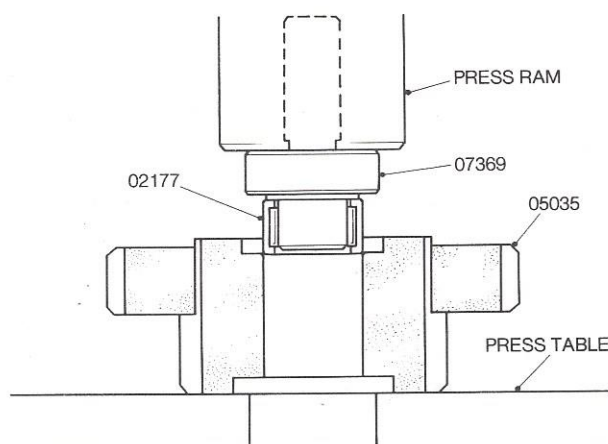

Figure 19 Assembly of the Layshaft Gear Needle Roller Bearings
- 11.2.2 Clamp the Assembly Press Tool 07369 into the press ram, centralise the assembly under the press ram and press the bearing in until the Assembly Press Tool touches the Layshaft Gear Assembly. See Figure 19.